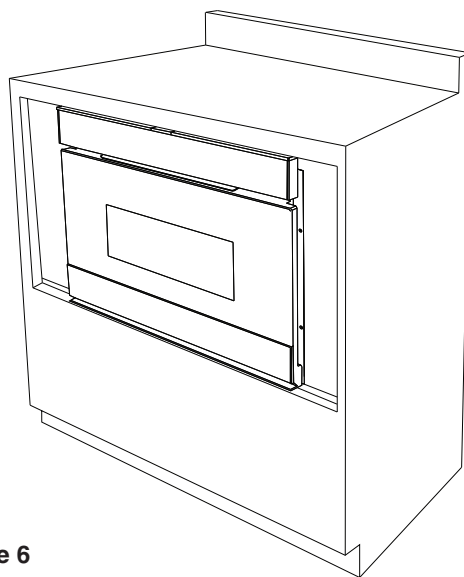

Figure 6
6. Close drawer to complete oven installation. See Figure 6.